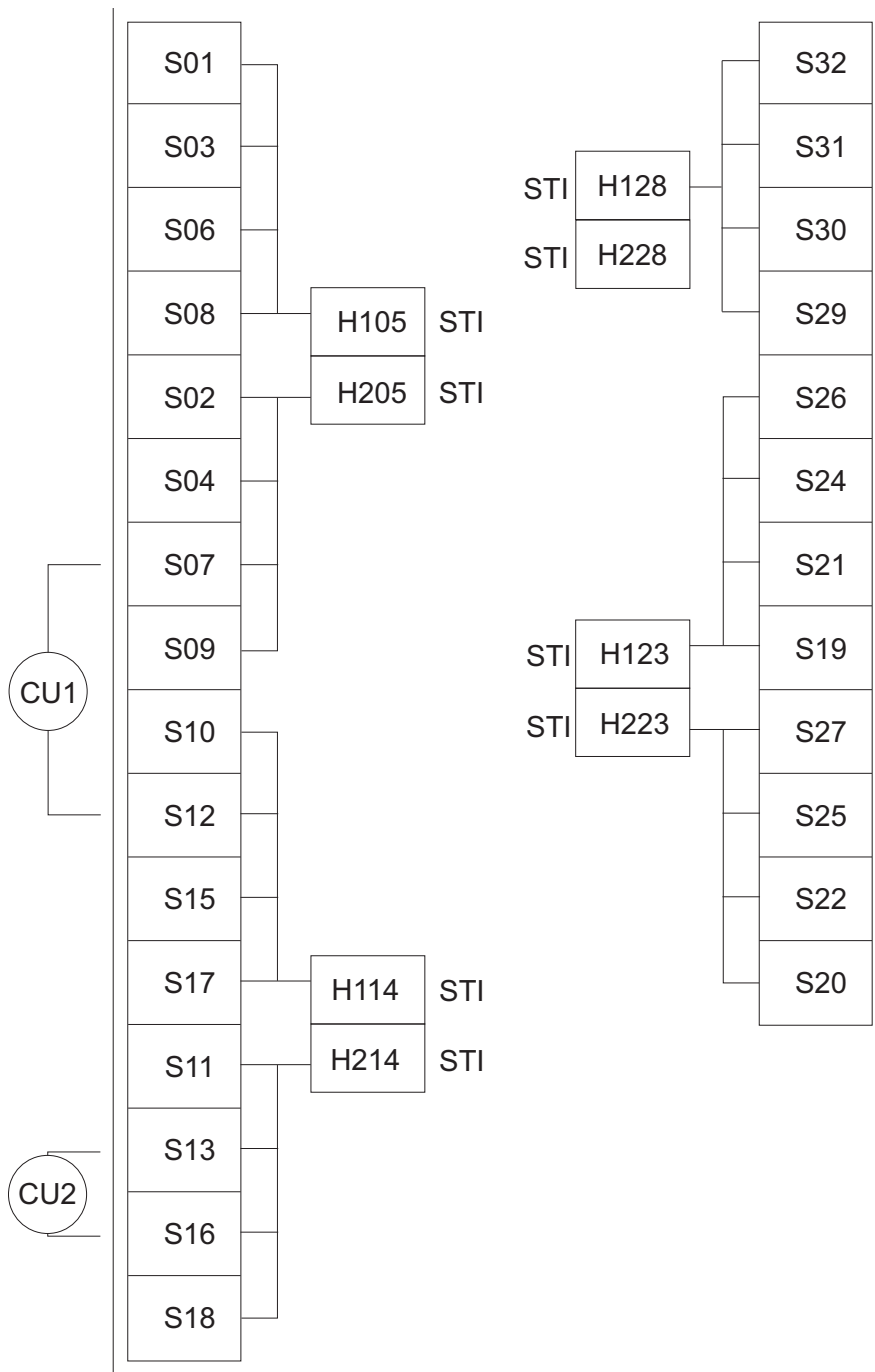

Figure 7. I/O channel path configuration for a representative I/O cage in a 2094 or 2096 model
When configuring devices with multiple paths to the same CPC, select any of the channel paths shown in Figure 7 on page 12 that:
**Note:** Each example in Figure 7 on page 12 is only an attempt to illustrate an availability guideline and does not represent an overall optimal configuration.